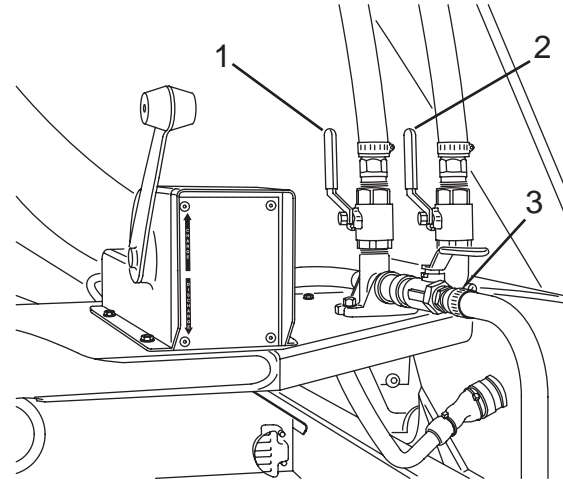

Figure 83
12. Open wash-out hose valve (Figure 83, Item 3) at the rear of the Mixer and allow water to drain.
13. Open wash-out valve (Figure 83, Item 1) and add-water valve (Figure 83, Item 2) and allow water to drain through wash-out hose.